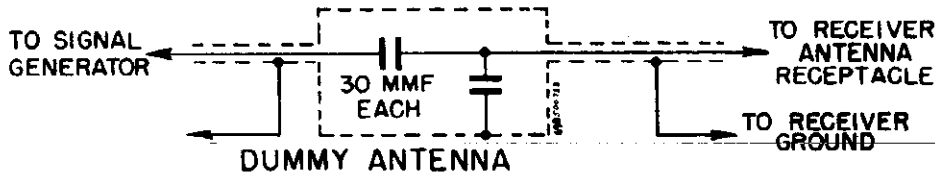

FIGURE 2. DUMMY ANTENNA DETAIL
5. A special dummy antenna for RF alignment. Construct dummy antenna as shown in Figure 2.